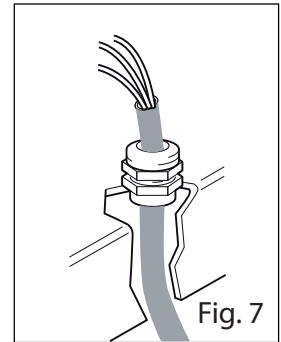

Fig. 7
- The cable model H07RN-F must be introduced in the appliance through the cable clip at the correct length and fixed to the cable clip (Fig. 7).